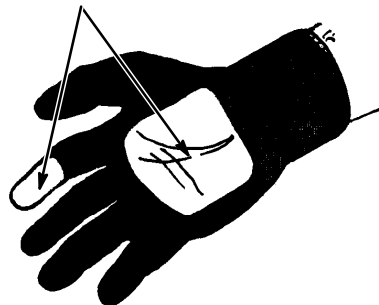

Fig 9
- 6. Operator must not wear gloves which insulate the hand from the spray gun. If worn, gloves must be conductive or modified as shown in Fig 9 so as not to interfere with operator grounding through the gun.